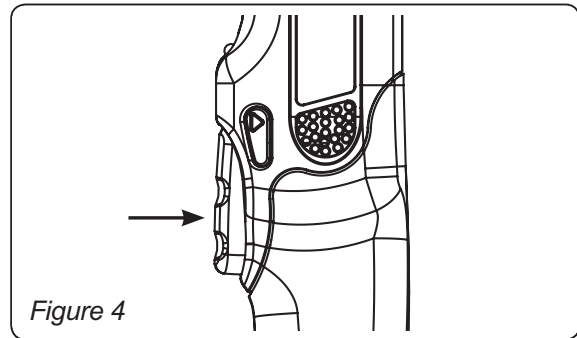

Figure 4
1. When the trigger switch is depressed, the tool rotates. When the trigger is released, the tool stops. (Fig. 4)